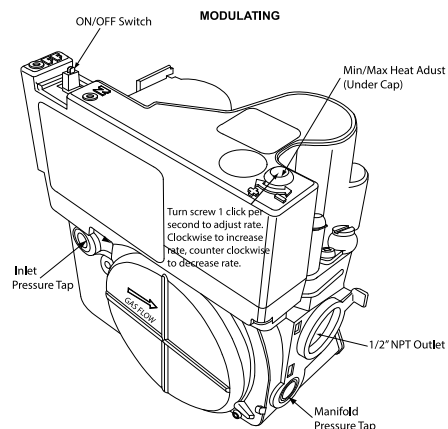

Fig. 63 – Gas Valve without Tower Pressure Ports
9. To adjust the Maximum Heat manifold pressure, slowly turn adjusting screw counterclockwise to decrease manifold pressure or clockwise to increase manifold pressure. Turn adjustment no more than one click per second until you obtain the required manifold pressure, see Fig. 63.
- To adjust the Minimum Heat manifold pressure, slowly turn adjusting screw counterclockwise to decrease manifold pressure or clockwise to increase manifold pressure. Turn adjustment no more than one click per second until you obtain the required manifold pressure, see Fig. 63.